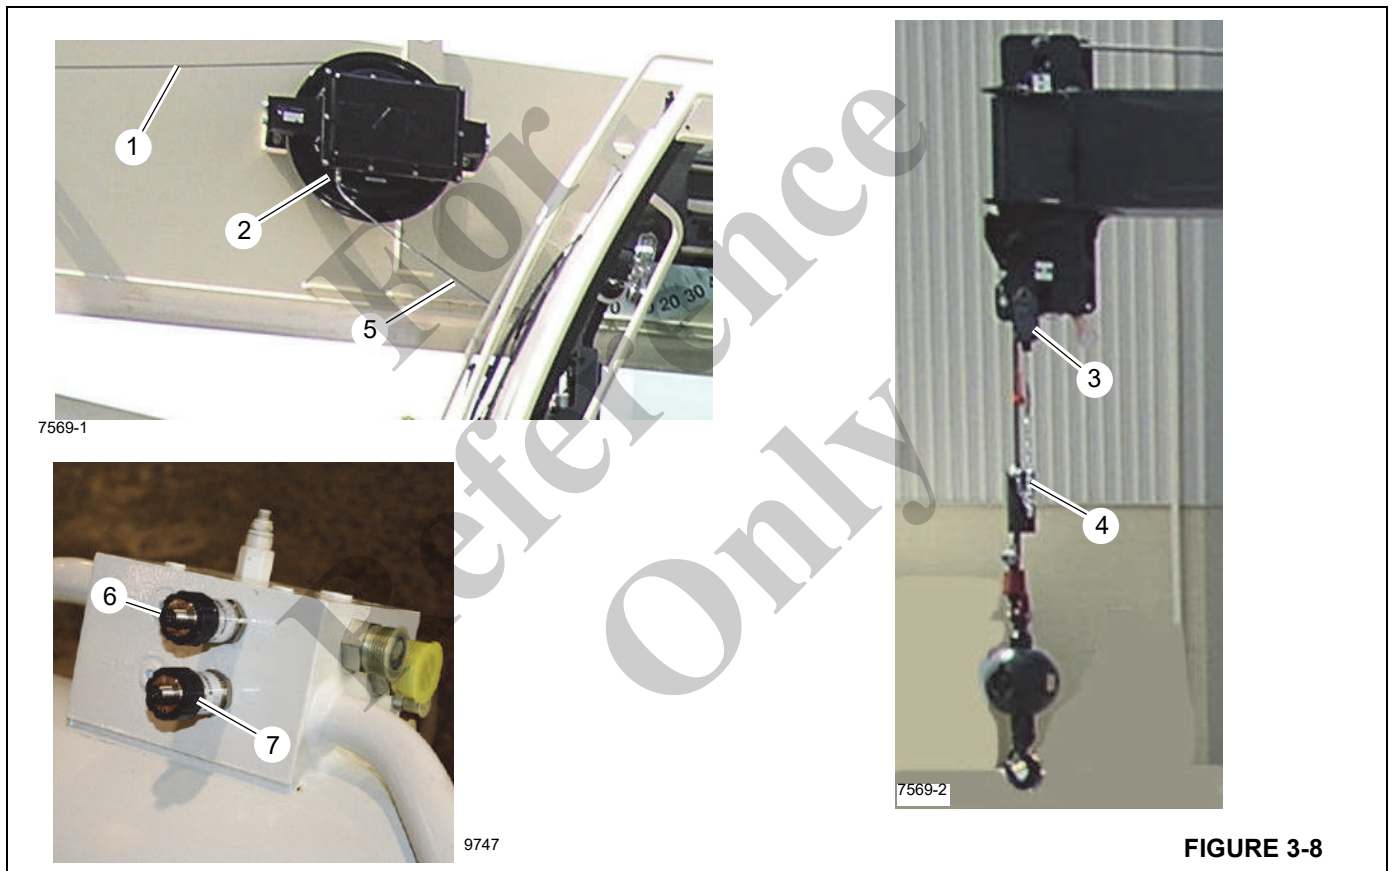

FIGURE 3-8
The boom A2B cable (1, Figure 3-8) runs from the A2B reel inside the boom to the A2B switch assembly (3). The A2B